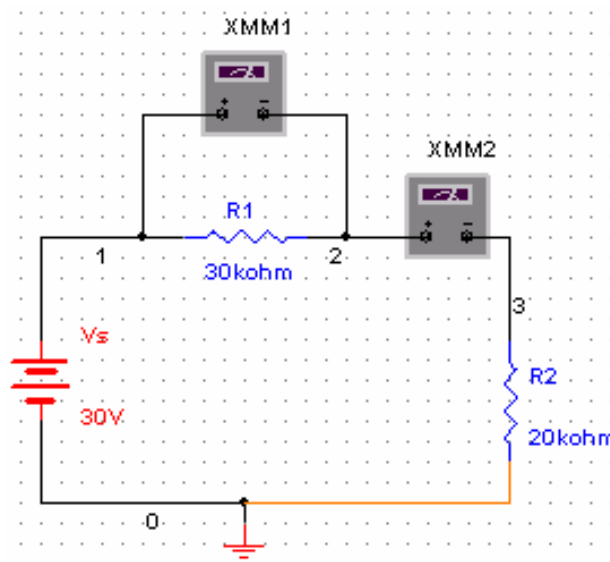

Figure 16: Multimeter connection for current measurement
1. Place a second Multimeter in the workspace as we did in Step C. Remove the connection between  $R_1$  and  $R_2$ . Connect the '+' terminal of the Multimeter towards  $R_1$  and the '-' terminal towards  $R_2$  as shown in Figure 16.